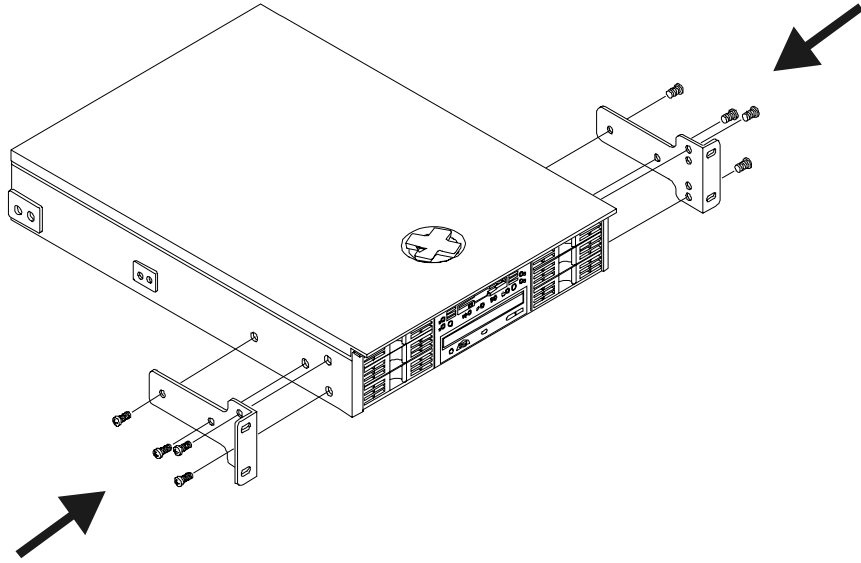

Figure 8-4. Attaching Flush-Mount Brackets
- ◇ *If you are flush-mounting the HP Netserver, attach the two flush-mount brackets, as shown in Figure 8-4.*